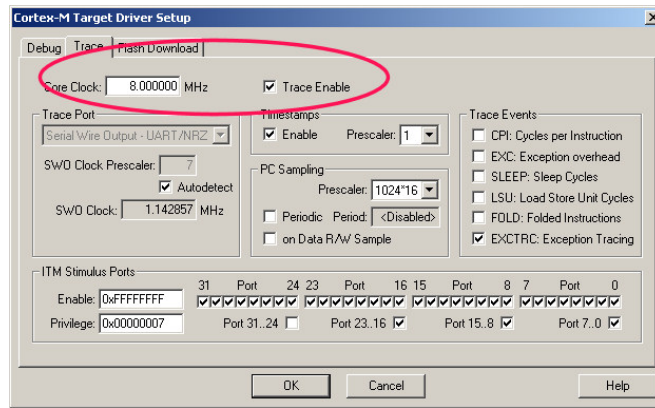

Figure 16
- 3) Set the Trace. (Figure 16)
- 7) Select the SWJ box and set Port: to SW as shown. This must not be set to JTAG. SWV operates only through the Serial Wire debug port (SW). Max clock @ 1 MHz is correct. Up to 10 MHz will work. A Device Name similar to that shown in the SW Device box must be shown. If not, make sure both the ULINK and the board are powered.
- 8) Select the Trace tab and Figure 16 opens up to configure the SWV trace: